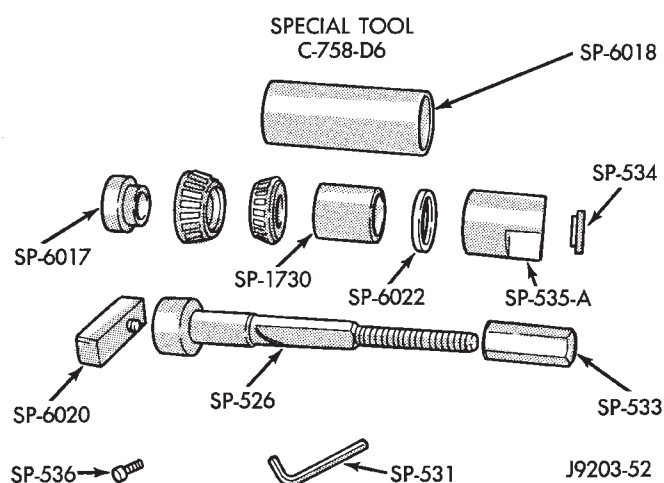

Fig. 54 9 1/4 Axle Pinion Adjustment Tools
(1) Install front bearing cup. Use Installer D-129 and Handle C-4171.
(2) Install rear bearing cup. Use Installer C-4310 and Handle C-4171.
(3) Use Pinion Gear Adjustment Gauge Set C-758-D6 (Fig. 54).
(4) Position Spacer SP-6017 over Shaft SP-526.
(5) Position pinion rear bearing on shaft.
(6) Position tools (with bearing) in the housing.
(7) Install Sleeve SP-1730.
(8) Install pinion front bearing.
(9) Install Spacer SP-6022.
(10) Install Sleeve SP-535A, Washer SP-534, and Nut SP-533.